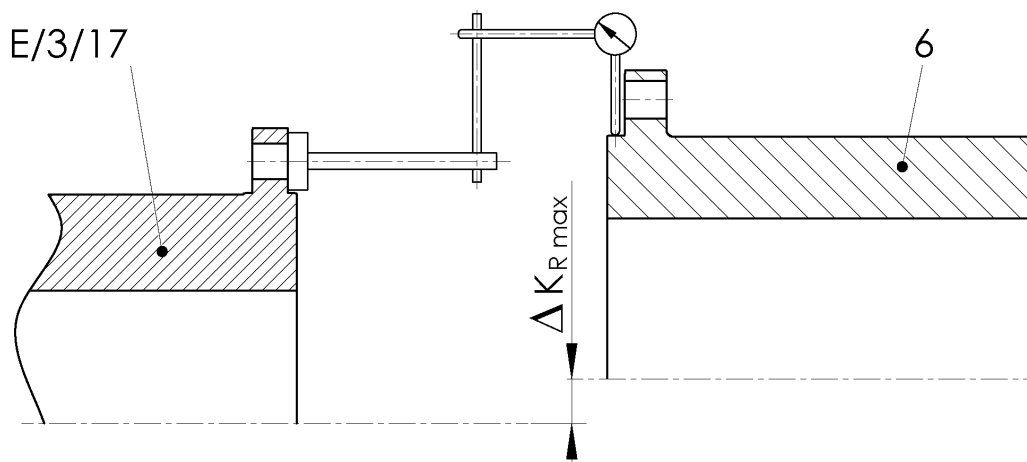

Fig. 5-2 Radial misalignment
- Measure the radial misalignment with a dial gauge (see Fig. 5-2).
- Turn the flange/hub/adapter (E/3/17) with dial gauge and hub (6) slowly by 360°.